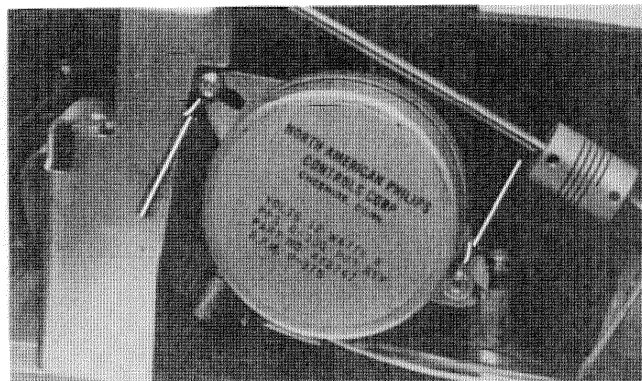

Figure 6-6. Paper-Advance Motor Screws
- a. Loosen the two screws securing the paper-advance motor to the printer, using a #1 Pozidriv screwdriver. (See figure 6-6.)